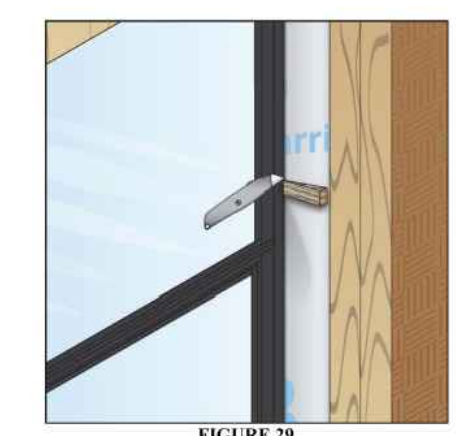

FIGURE 29
7.7.2 In cases where shims, clips, or anchoring devices cause interference with the application of the interior air and water seal, trim, remove or take steps necessary to seal such obstructions to allow for a continuous air/water seal (see Figure 29). In all cases make sure the entire perimeter joint has been sealed, creating an air/water tight condition.